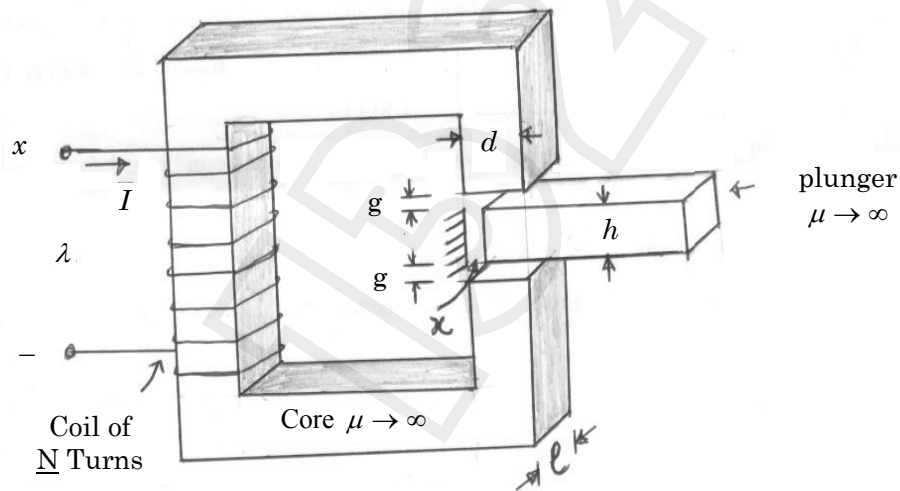

Fig. Q. 13. (a) (ii)
- Find the 'All Day Efficiency'? (12)
13. (a) (i) Derive an expression for the magnetic energy stored in a singly excited electromagnetic relay. (8)
- (ii) The relay shown in Fig. Q.13.a (ii) is made from infinitely permeable magnetic material with a movable plunger also of infinitely permeable material. The height of the plunger is much greater than the air gap length ( $h \gg g$ ). Calculate the magnetic energy stored as a function of plunger position ( $0 < x < d$ ) for  $N=1000$  turns,  $g = 2.0$  mm,  $d=0.5$  m,  $l = 0.1$  m and  $I = 10$  A. (8)